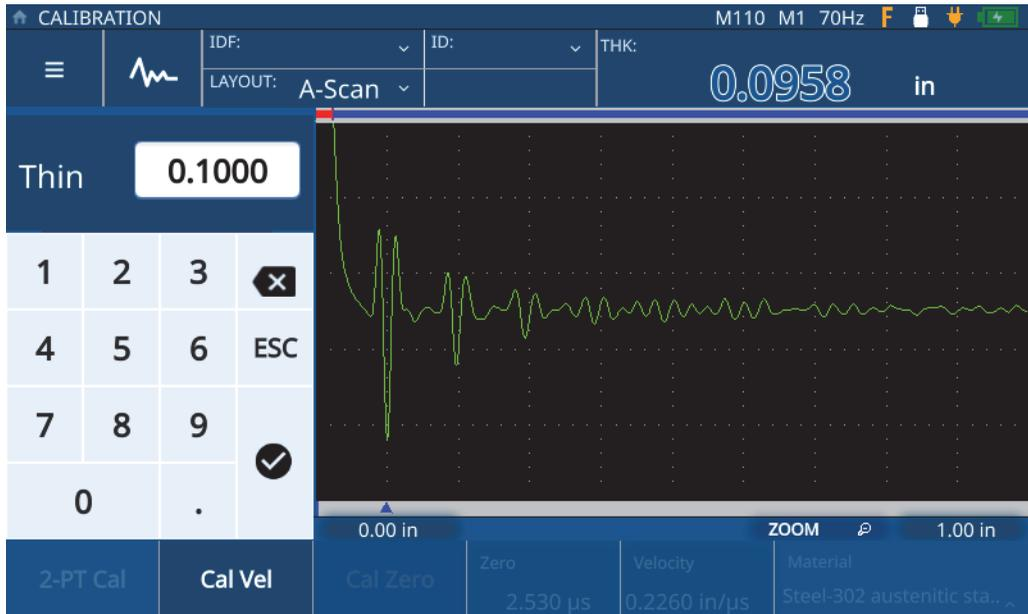

Figure 5-6 Entering Sample Thickness
5. Tap the **Thin** value to enter **Edit** mode, and enter the thickness of the sample (see Figure 5-6 on page 45).